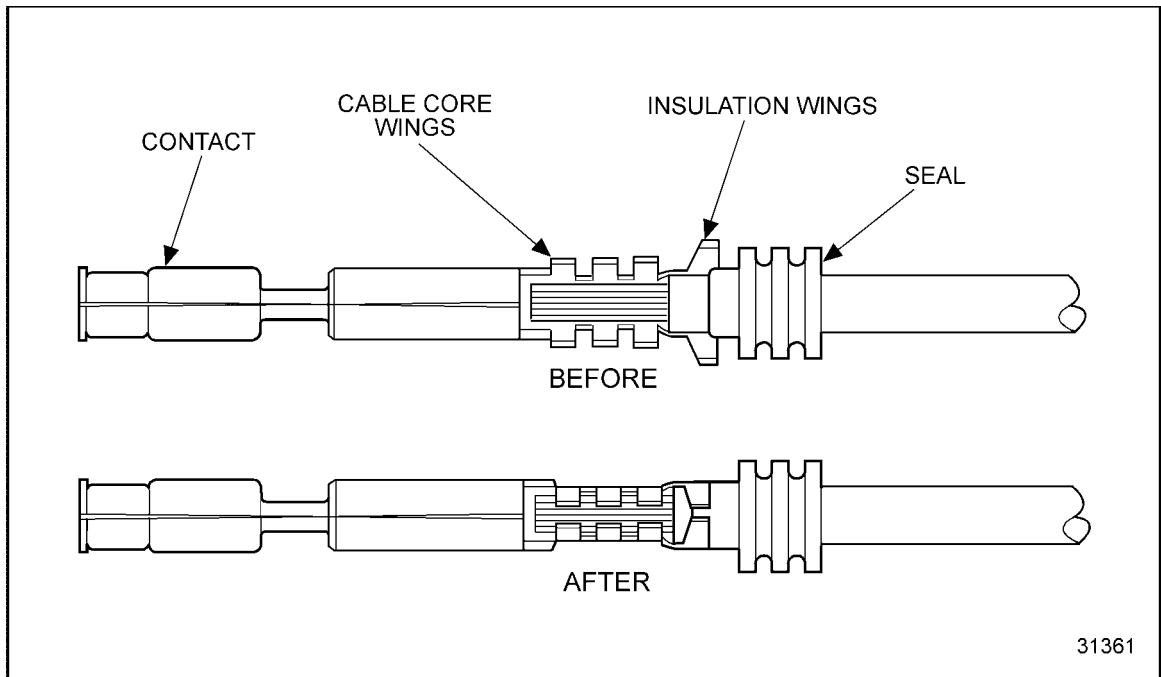
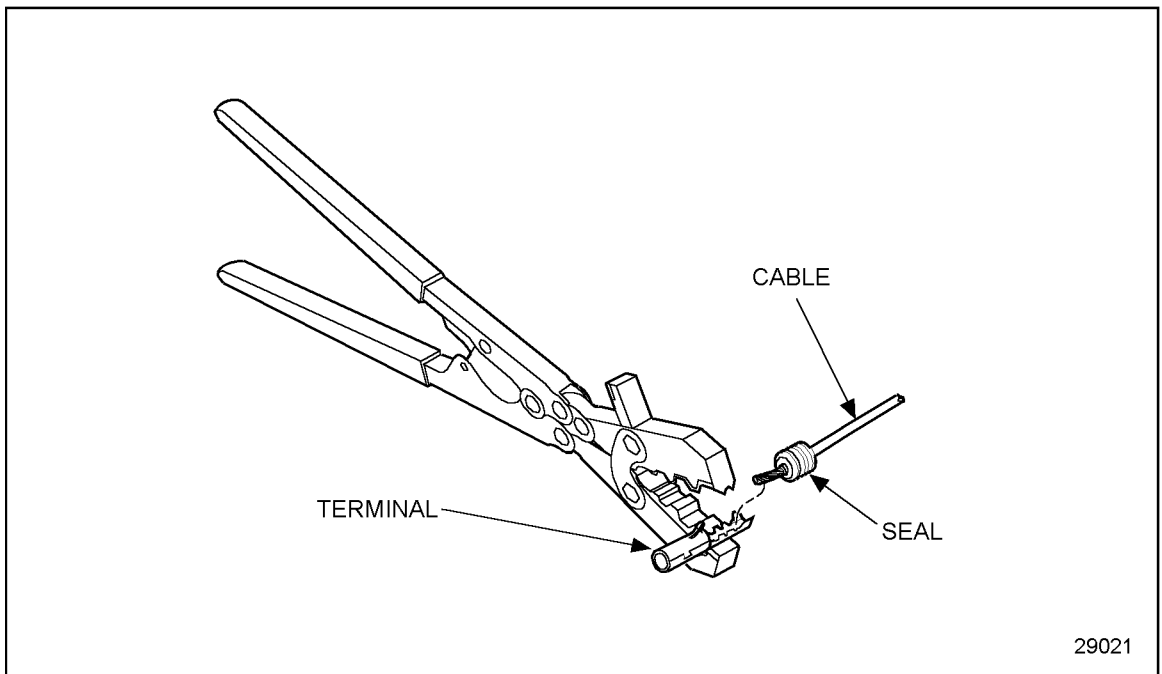

Figure 3-33 Terminal Installation (Shown with a Seal)
Figure 3-34 Terminal Position (Shown With a Seal)
2. Remove the insulation from the end of the cable with J 35615 (or equivalent), exposing 5.0 ± 0.5 mm ($0.2 \pm .02$ in.) conductor (wire), a sufficient amount of wire to be crimped by the terminal core wings (see Figure 3-33).
3. Insert the terminal into the locating hole of the crimping tool using the proper hole according to the gage and function of the cable to be used. See Figure 3-34.
4. Insert the cable in the terminal so the stripped portion is positioned in the cable core wings and the insulated portion of the cable is in the insulation wings (see Figure 3-34). Position the seal on the cable so the insulation wings grip the seal (see Figure 3-33).